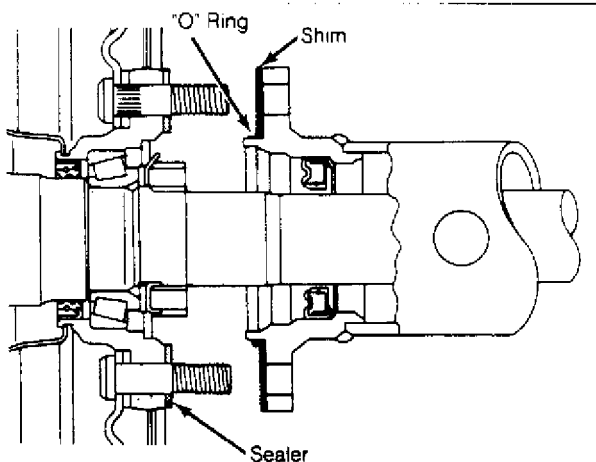

Fig. 15: Applying Sealant (Montero, Pickup & Ram-50)
4) Adjust clearance between bearing case and rear axle by inserting .04" (1.0 mm) shim and "O" ring into left rear axle housing. Apply semi-drying sealant to mating surface of bearing case. See Fig. 15. Install left axle shaft into rear housing, and tighten nuts diagonally to 36-43 ft. lbs. (49-58 N.m).
6) Remove right axle shaft. Install shims to equal bearing case-to-axle housing clearance plus .002-.008" (.05-.20 mm). Install "O" ring to right rear axle housing. Apply sealant to mating surface of bearing case. See Fig. 15.